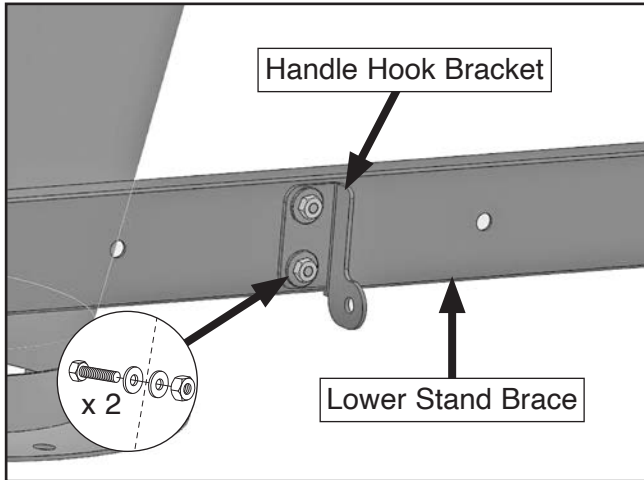

Figure 36. Handle hook bracket attached to lower stand brace.
38. Attach handle hook bracket to lower stand brace above handle using (2) $\frac{3}{8}$ "-16 x 1" hex bolts, (4) $\frac{3}{8}$ " flat washers, and (2) $\frac{3}{8}$ "-16 lock nuts (see **Figure 36**).